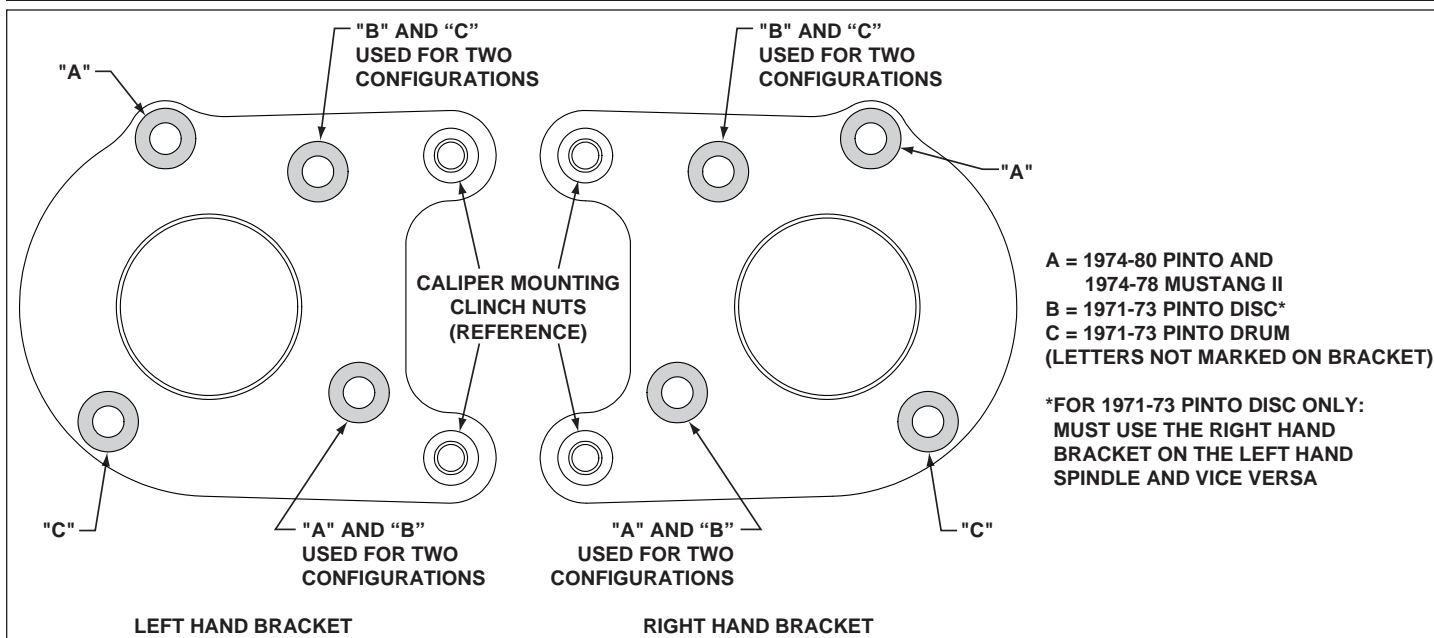
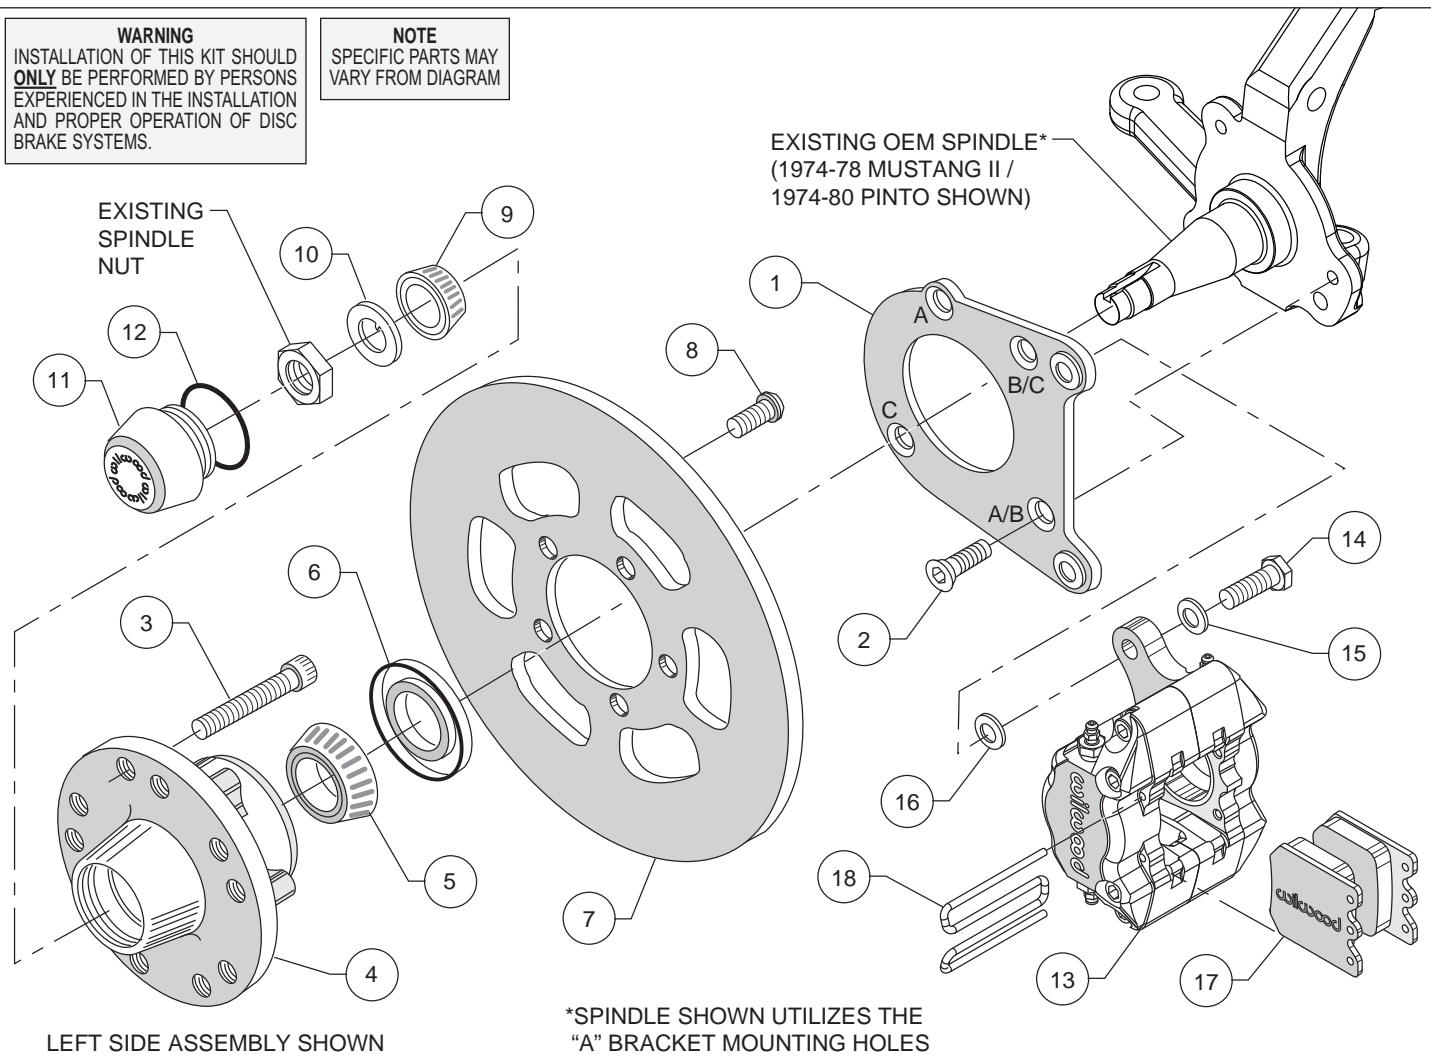
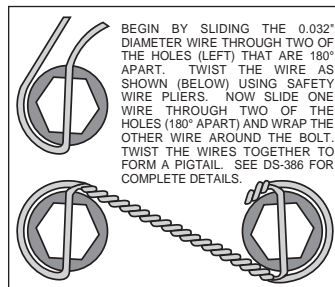
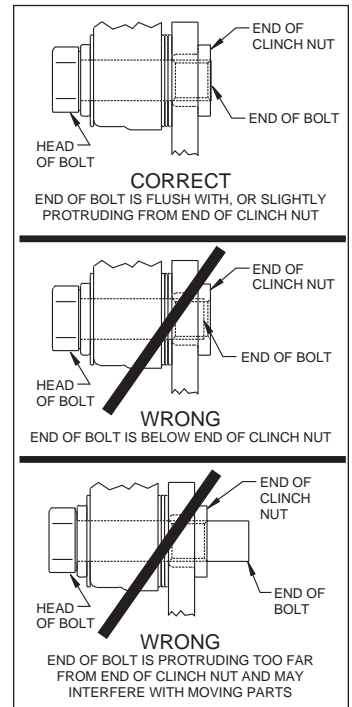

Figure 1. Wilwood Caliper Mounting Bracket
Figure 2. Typical Installation Configuration
Figure 4. Safety Wire Diagram
Figure 5. Clinch Nut Engagement Diagram
This kit has been designed for use with three spindle configurations. The only difference is in how the Wilwood caliper mounting bracket is installed. The same bracket is used for all three configurations; the 1974-78 Mustang II/1974-80 Pinto, the 1971-73 Pinto disc and the 1971-73 Pinto drum spindle (see Figure 1). For your convenience we have supplied fasteners for all applications (see parts list and Figure 2 as necessary, items 2 and 2A). Use the fasteners that are applicable to your vehicle and disregard the other items.
Assembly Instructions (numbers in parenthesis refer to the parts list, on the preceding page and Figure 2): **CAUTION:** All mounting bolts must fully engage clinch nuts. Be sure to check that all bolts are either flush or protruding through flanged side of clinch nut after shimming, Figure 5.
•Orient the caliper mounting bracket (1) as shown in Figure 2 and Photo 1. Using the bracket holes indicated “A” in Figure 1, mount the bracket to the spindle using bolts (2), Photo 1. Temporarily tighten the mounting bolts. Ensure that the flanged heads of the clinch nuts in the bracket are facing outboard, Photo 1. **NOTE:** *The bracket must fit squarely against the mounting points on the spindle.* Inspect for interference from casting irregularities, machining ridges, burrs, etc. Remove bolts one at a time, apply red *Loctite*® 271 to threads and torque to 30 ft-lb.
•Orient the caliper mounting bracket (1) as shown in Photo 2. Using the bracket holes indicated “B” in Figure 1, mount the bracket to the spindle using bolts (2), Photo 2. **NOTE:** *For this application, the right hand bracket must be used on the left hand spindle, and vice versa.* Temporarily tighten the mounting bolts. Ensure that the flanged heads of the clinch nuts in the bracket are facing outboard, Photo 2. **NOTE:** *The bracket must fit squarely against the mounting points on the spindle.* Inspect for interference from casting irregularities, machining ridges, burrs, etc. Remove bolts one at a time, apply red *Loctite*® 271 to threads and torque to 30 ft-lb.
•Orient the caliper mounting bracket (1) as shown in Photo 3. Using the bracket holes indicated “C” in Figure 1, mount the bracket to the spindle using bolts (2) and nuts (2A), Photo 3. Temporarily tighten the mounting bolts. Ensure that the flanged heads of the clinch nuts in the bracket are facing outboard, Photo 3. **NOTE:** *The bracket must fit squarely against the mounting points on the spindle.* Inspect for interference from casting irregularities, machining ridges, burrs, etc. Remove nuts one at a time, apply red *Loctite*® 271 to the bolt threads and torque nuts to 30 ft-lbs.
•Install wheel studs (3) into the hub (4), Photo 4. Torque to 77 ft-lb. **NOTE:** *There are two five lug patterns in the hub (5 x 4.50 and 5 x 4.75).* Ensure the correct hub stud pattern is being used to fit the wheel application.
•Pack the large inner bearing cone (5) with high temperature disc brake bearing grease (available from your local auto parts store) and install into the backside of the hub (4), Photo 5.
•Install the grease seal (6) by pressing into the backside of the hub (4), flush with the end of the hub, Photo 5.
•Orient the rotor (7) and the hub (4) as shown in Figure 2 and Photo 6. Attach the rotor to the hub using bolts (8). Using an alternating sequence, apply red *Loctite*® 271 to the threads, and torque to 45 ft-lb. **NOTE:** *The counterbored side of the rotor should face away from the hub.*
•Pack the small outer bearing cone (9) with high temperature disc brake bearing grease and install into hub (4). Slide the hub/rotor assembly onto the spindle. Secure using spindle washer (10) and OEM spindle nut, Photo 7. Adjust bearings per OEM specifications. Install saved OEM nut lock (if any) and a new cotter pin (not included).
•Screw dust cap (11) into hub (4), Photo 8. Friction created by the o-ring (12) on the dust cap keeps it from unscrewing. **NOTE:** The O.D. of the existing OEM spindle washer may be larger than the I.D. of the dust cap not allowing it to seat against the hub face. Therefore, use the spindle washer (10) supplied with the kit instead of the OEM washer.
•**NOTE:** Please reference the caution statement at the beginning of the assembly instructions. Mount the caliper (13) onto the caliper mounting bracket (1) using bolts (14) and washers (15), as shown in Figure 1. Initially place one .035" thick shim (16) on each bolt between the caliper and the bracket, Photo 9. Temporarily tighten the mounting bolts and view the rotor (7) through the top opening of the caliper. The rotor should be centered enough in the caliper so that the pads will install easily, Photo 10. If not, adjust by adding or subtracting shims (16) between the bracket and caliper. Always use the same amount of shims on each of the two mounting bolts. **CAUTION:** Do not exceed four shims (16) per bolt. **NOTE:** The end of each bolt must be flush with or slightly protruding from the head of the clinch nut, as shown in Figure 5. If necessary place spare shims between washer (15) and caliper mounting ear to achieve the proper clinch nut engagement. Once the caliper alignment and clinch nut engagement are correct, remove the bolts one at a time, apply red *Loctite*® 271 to bolt threads, and torque to 40 ft-lb. For an added measure of security, the bolts may be safety wired using standard 0.032 inch diameter stainless steel safety wire as shown in Figure 4. Refer to Wilwood's data sheet DS-386 (available at www.wilwood.com/Pdf/DataSheets/ds386.pdf) for complete safety wire installation instructions.
•Install the disc brake pads (17) into the caliper (13), with the friction material facing the rotor (7), Photo 11, and secure in place using the pad clip retainer (18), Photo 12.